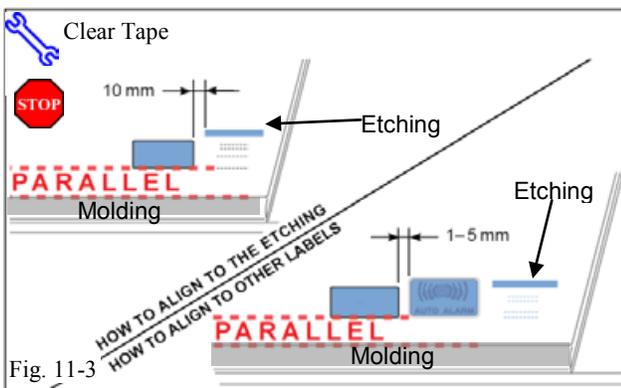

Fig. 11-3
(g) Attach the Window Label.(Fig. 11-3)
**NOTE:** Make sure to Align according to Etching or Other Label. (Fig. 11-3)